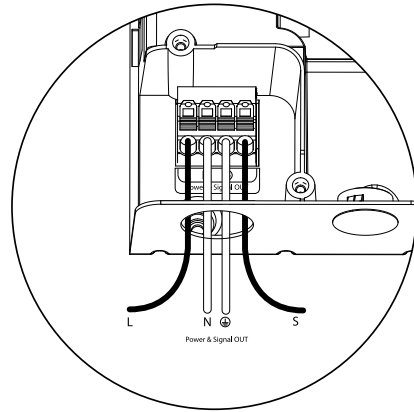

Figure 7
- Make connections to the "Power and Signal Out" section; connecting to appropriate line, neutral, and ground terminals. (Note: wire strip length is 12mm/.47inches.) Insert appropriate conductors from Mains Power. (see fig. 7)